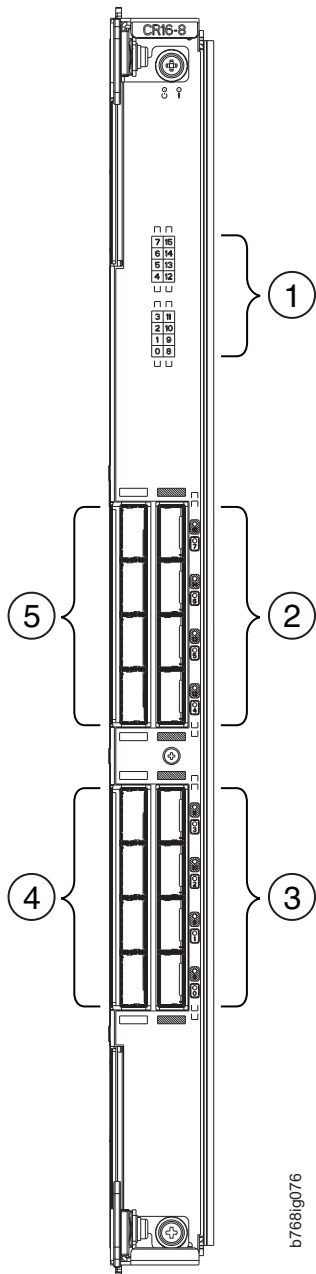

Figure 48. CR16-8 core blade
- Figure 48 on page 170 shows a CR16-8 core blade